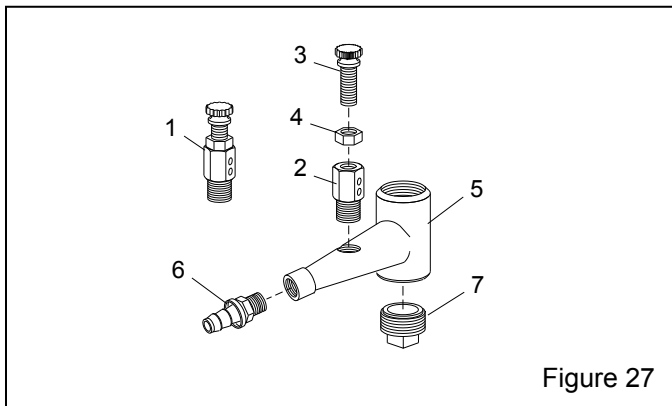

Figure 27
8.5 Metering Valve Assembly, Figure 27